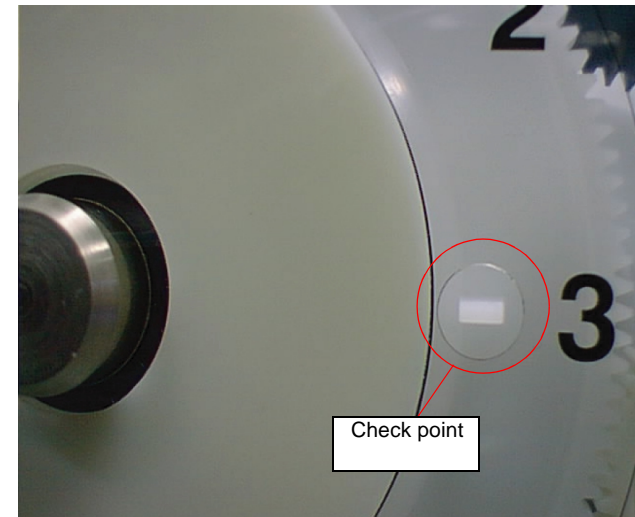

Figure 5-58. Checking the PF Loop scale sticking condition
- Check the two protrusions on the Gear 76 is sticking from the small circled cut off holes of the PF Loop scale. Refer to Figure 5-58.